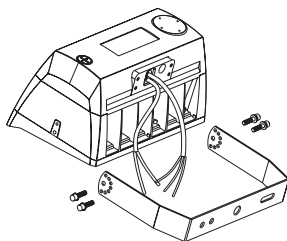

Figure 5
3. FLOOD MOUNTING (FM)
Step 1: First install two big screwst. (Figure 5)